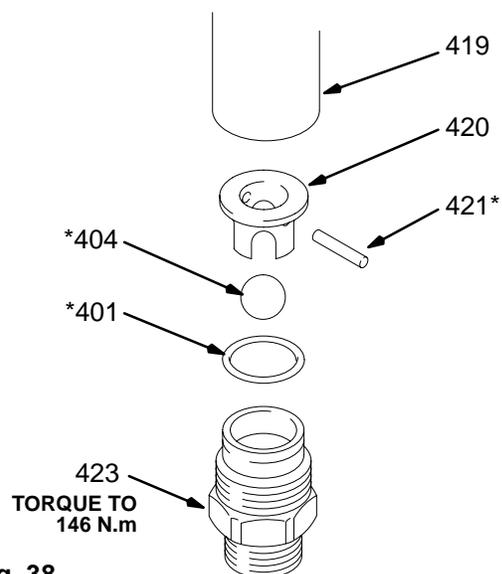

Fig. 38
2. Disassemble the intake valve. See Fig. 38.